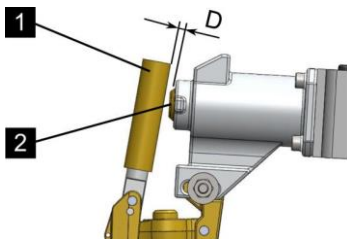

Fig. 164: Checking distance
17. Check distance $D = 3 \pm 1$ mm (0.118 ± 0.039 inches) (Fig. 164/D) between valve lever (Fig. 164/1) and release bolts (Fig. 164/2) and readjust if necessary.